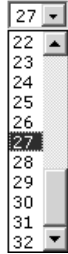

Figure 95. Output Selection Drop Box
1. To select an individual output to mute or unmute, click the **Output** drop box. A drop down scroll box appears (see figure 95).